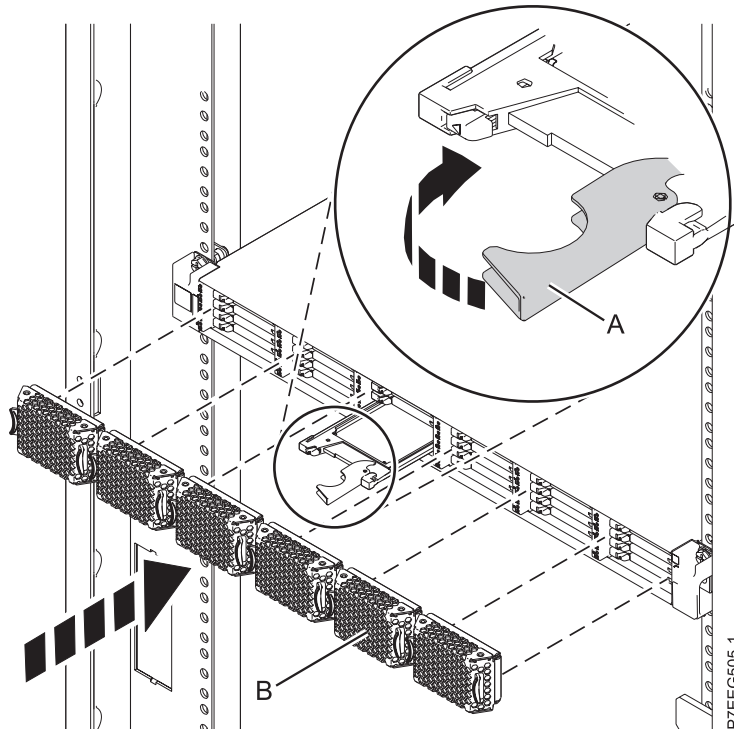

Figure 27. Replacing a solid-state drive in the 58/88 PCIe storage enclosure.
3. Rotate the handle (A) to the locked position, as shown in Figure 27 on page 45.
4. Install the bezel (B).